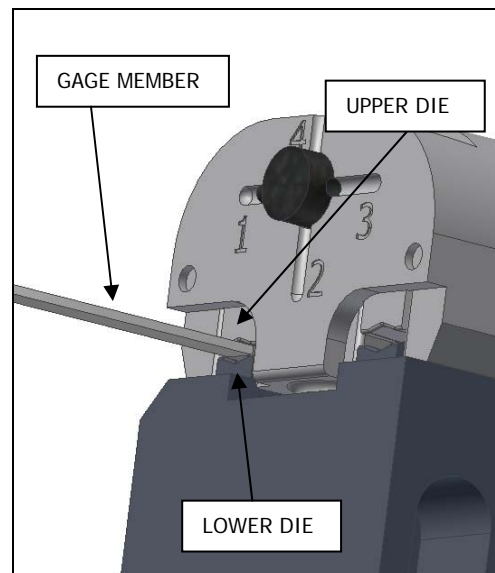

FIGURE 3
2. Insert the appropriately sized GO gage (Green) member into the insulation cavity, of the die (Red or Blue) you are trying to gage (See Figure 3).
5. Attempt to insert the NO-GO gage (Red) member into the insulation cavity, of the die (Red or Blue) you are trying to gage (See Figure 3).